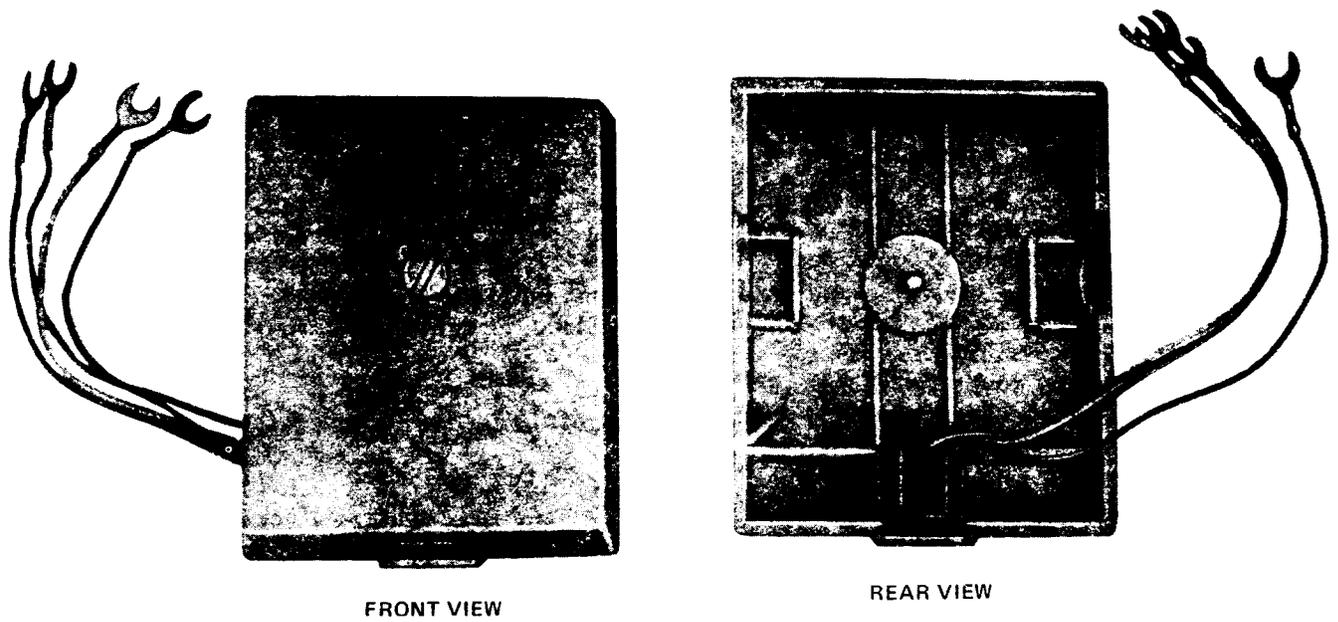

Fig. 3—625C Connecting Block
- Block, Connecting, 625C (Fig. 3)
**C. 625C Connecting Block (Fig. 3)**
**2.05** The 625C connecting block (Fig. 3) is a cover intended to convert a 42A connecting block to modular. The spade-tipped jack leads provide the terminations to the connecting block screw terminals. It is surface mounted. It is available in light olive gray (-49), ivory (-50), and brown (-54).